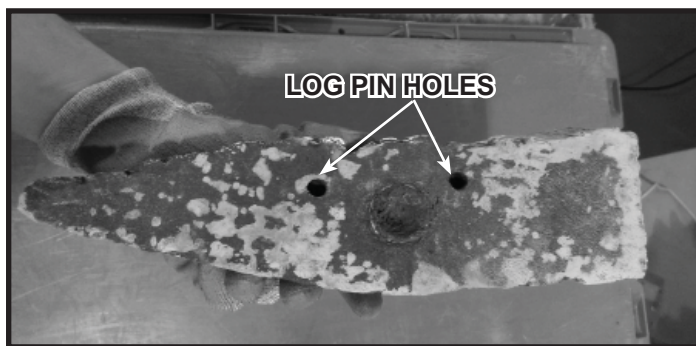
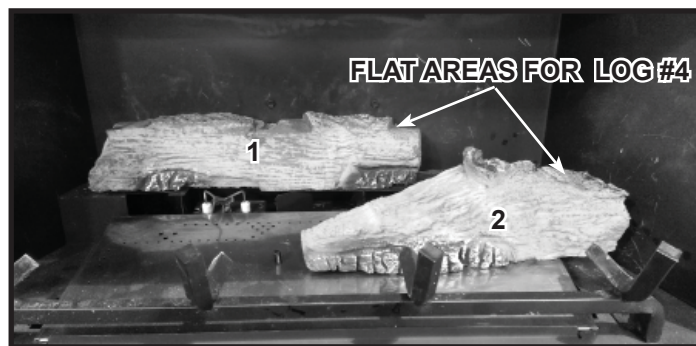

Figure 6. Log #2 Detail
Figure 7. Log #2 Installed
**Log #2 (SRV2219-704):** Note the location of the log pin placement holes on the bottom of Log #2, shown in Figure 6. Position Log #2 by placing over the two log pins located on the surface of the burner. Figure 7 shows Log #2 installed.
**Log #4 (SRV2219-702):** Note the flat areas on Log #1 and Log #2 highlighted in Figure 7. Position Log #4 by placing the left end of the log fully into the flat spot on Log #1 and then setting the other end of Log #4 in the flat spot on Log #2. See Figure 11.